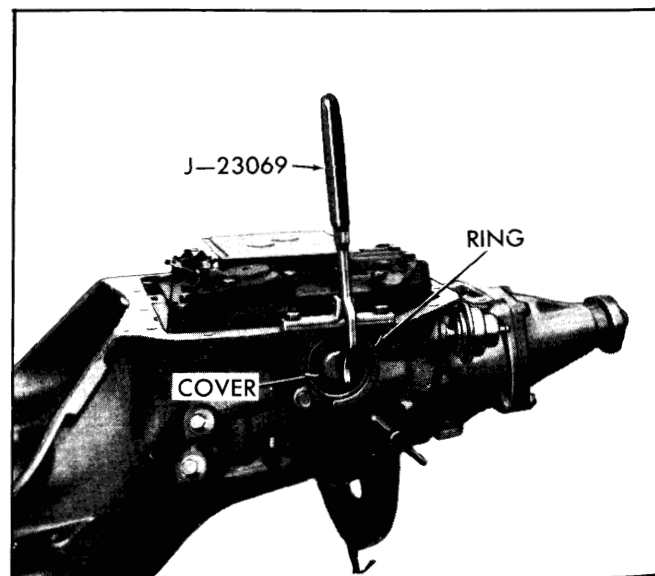

Fig. 7-56—Removing 1-2 Accumulator Piston Cover Retaining Ring
25. Install Tool J-23069 to compress 1-2 accumulator piston cover and remove retaining ring. (Fig. 7-56)